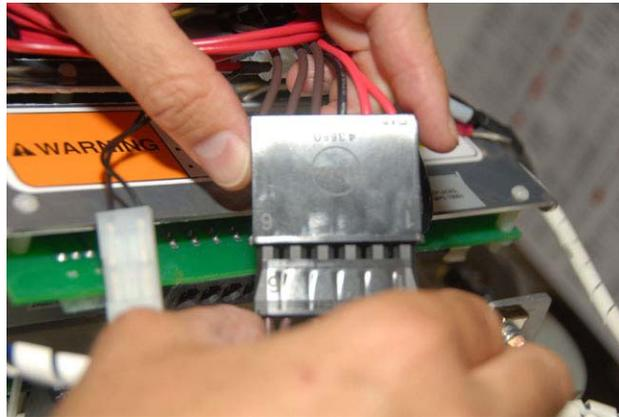

Figure 3 Connect Test Harness to Compressor
10. Connect the two plugs of the compressor cable harness into corresponding sockets of the DC Bus Test Harness (see Figure 3).